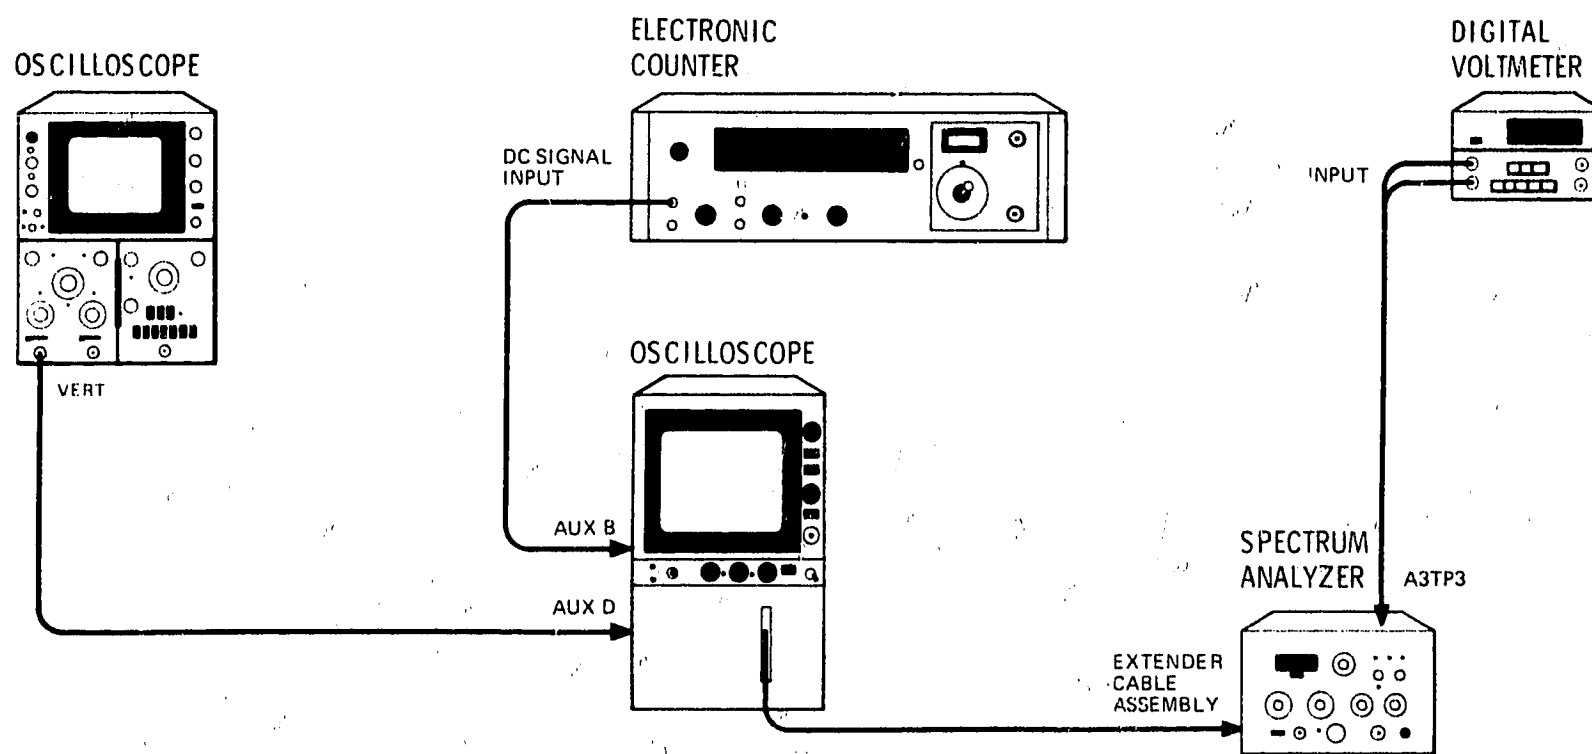

Figure 5-10. Sweep Time Per Division Adjustment Test Setup
1. Connect equipment as shown in Figure 5-10. Connect oscilloscope to AUX D, HORIZONTAL OUTPUT, rear of 180-Series mainframe option 807, or to A12TP5 of 8557A. Connect digital voltmeter to A3TP3 (located to the left and below A3TP4.)